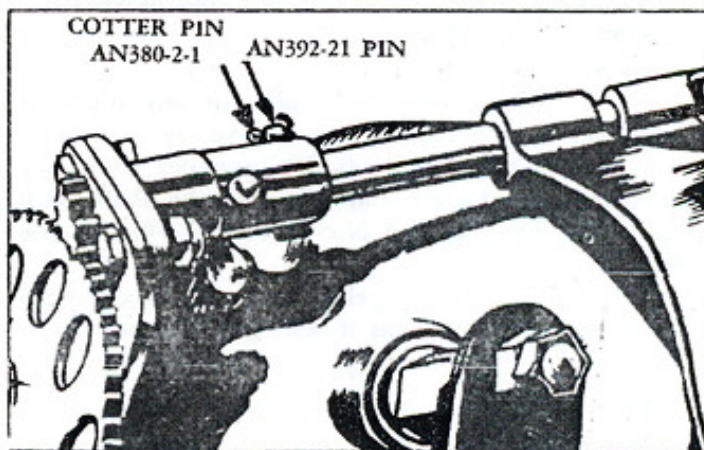

Figure 6F—Pinion Gear, Shaft Connection
6. Install the AN392-21 pin that connects the pinion gear universal to the control shaft and safety with AN380-2-1 cotter pin. (See figure 6F.)